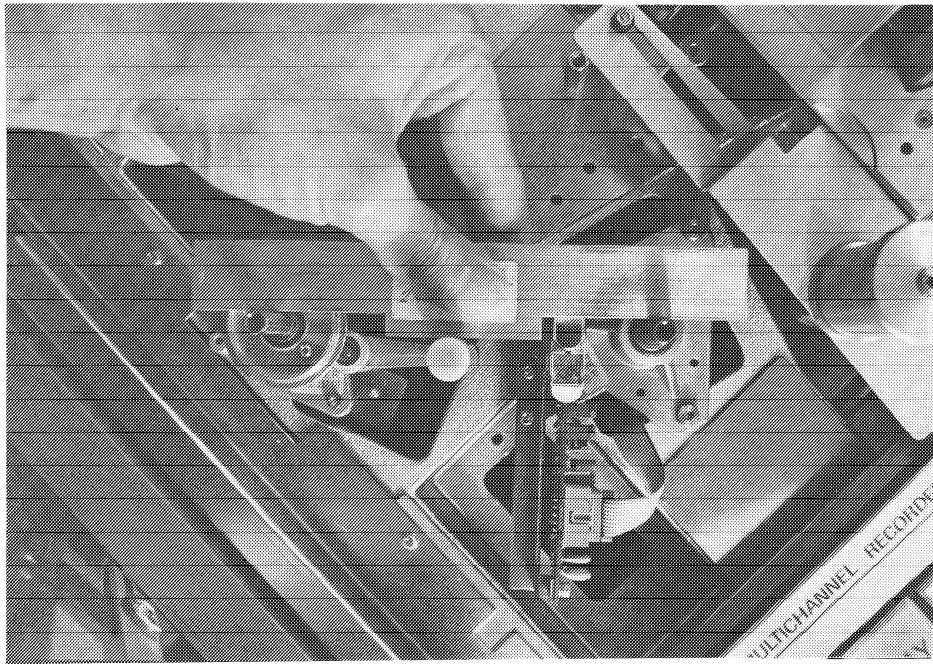

Fig. 4
- Insert gauge (10.010.001.34) for adjusting the tape tension sensors according to Fig. 4, adjust with R9 (Gain-Adjust) to a voltage of 2.400 V +/- 50mV.